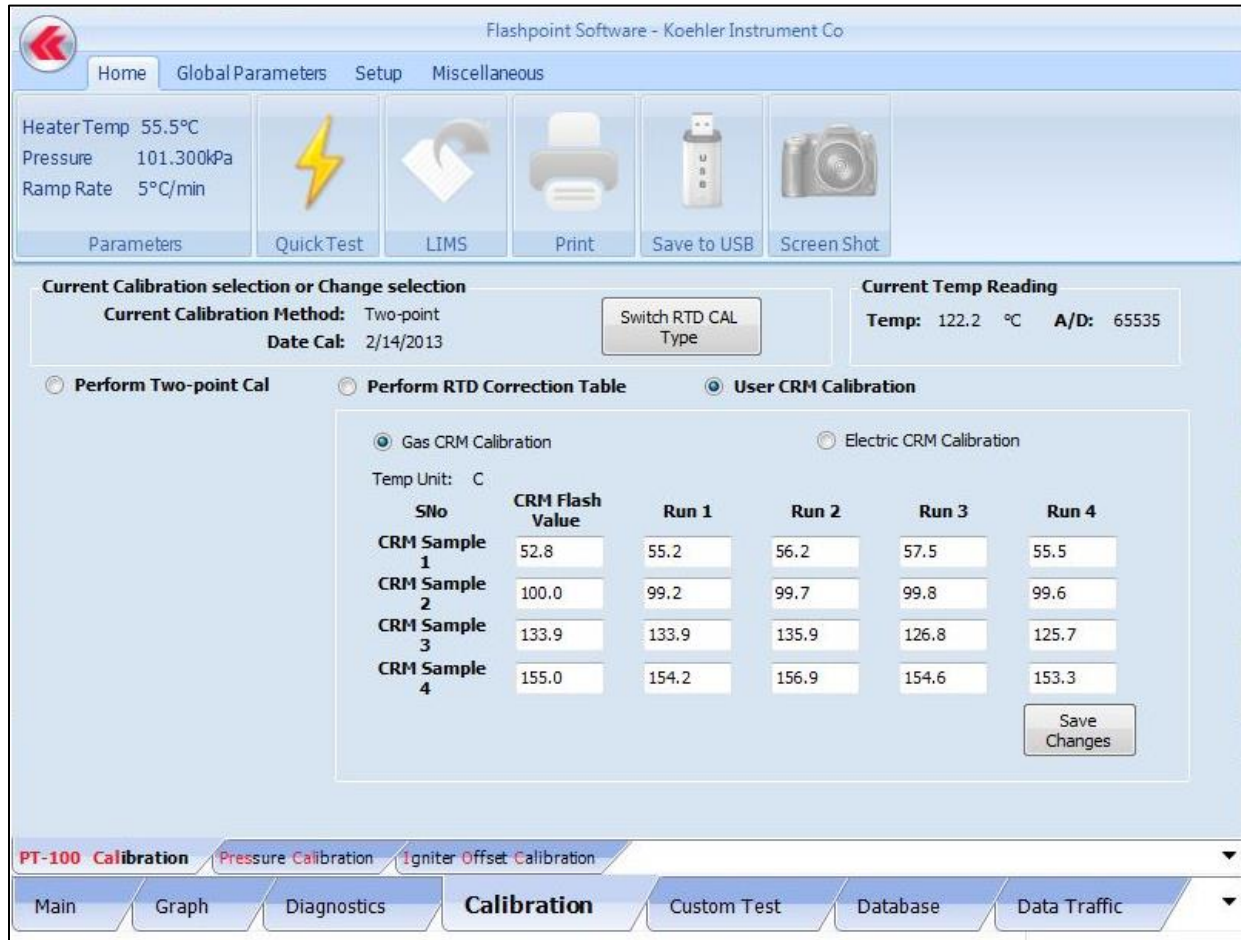

Figure 19: Calibration Screen (Gas CRM Calibration)
**User CRM Calibration\_Gas CRM Calibration** as shown in **Figure 19** below is a user defined table that allows for the input of flash point values of up to four (4) Certified Reference Material (CRM) samples using a Gas Ignition source.
- c. **Igniter Offset Calibration** - An Electrical Igniter offset can be entered as a deg Celsius (°C) value as pictured in Figure 19 below. This method of calibration is useful when a material of known flash point is tested and the analyzer is displaying a value greater than the known value, e.g. known value is 53°C, Analyzer displays 55°C. Entering a 2°C value in the field will offset the analyzer measurement to display 53°C.